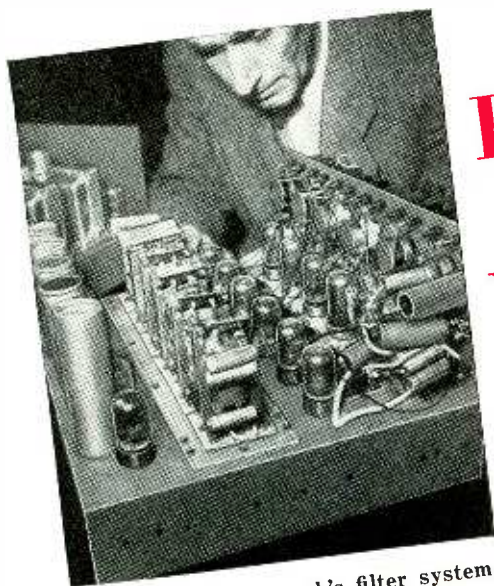
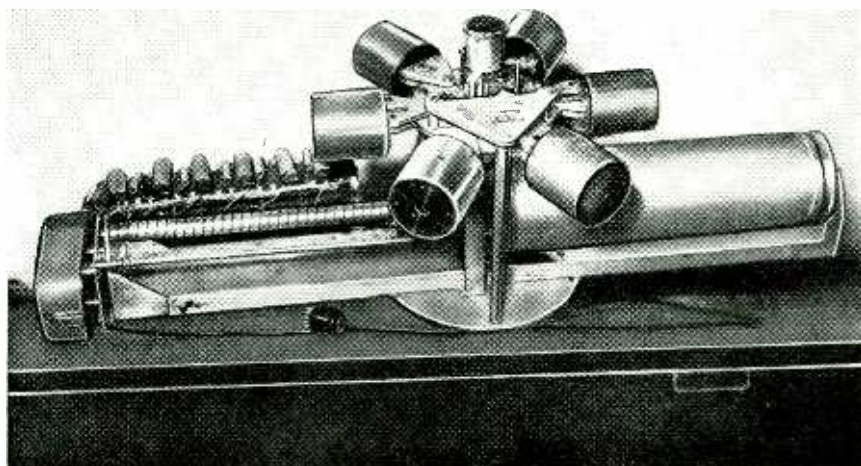

Fig. 1—The Sonograph's filter system.
Fig. 2—Photo of the tracing apparatus showing the solenoids mounted on top.
**T**HE Sonograph is illustrated in Figs. 1 and 2. Its principle is fairly simple. It divides human speech into a number of frequencies by a series of filters (Fig. 1), and the output of each filter is fed to one of the cylindrical solenoids shown in Fig. 2. Magnetic shafts extend into the solenoids. The outside end of each shaft is attached to the pen, which traces a line on the moving cylinder. As each solenoid pulls the pen toward it, the pen traces a line in that direction. The final character drawn is the resultant of all the pulls—all the sounds at different frequencies—passed from the microphone through the filter system to the solenoids.